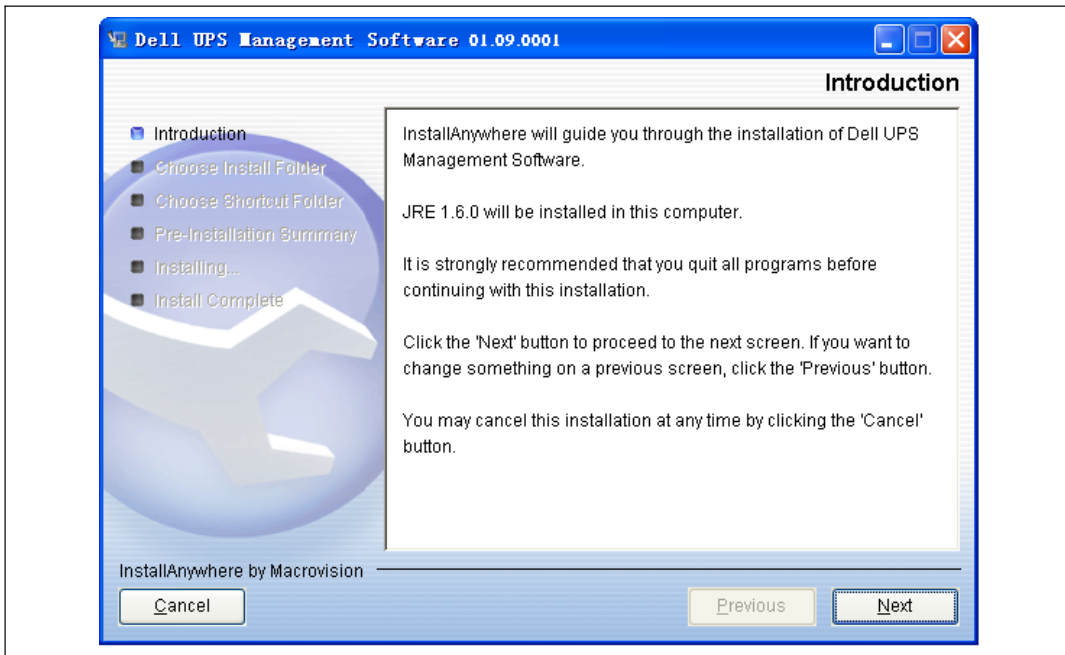

Figure 9. Introduction Window
- 3 Read the introduction and click **Next** (see Figure 9).